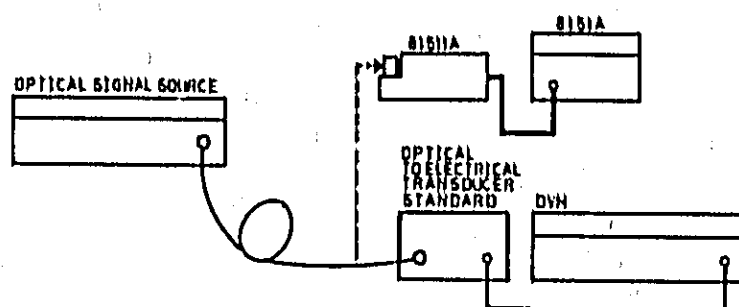

Figure 4-4. Test setup for Average measurements > 5 nW
1. Connect the equipment as shown in Figure 4-4.